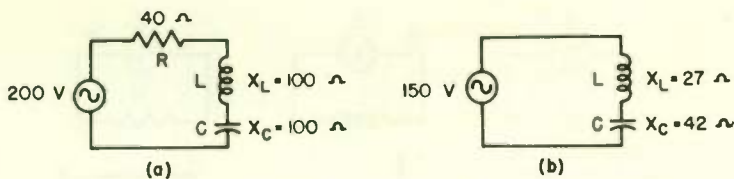

Fig. 41
5. What is the voltage across R in Fig. 41(a)?
6. What is the voltage across C in Fig. 41(b)?